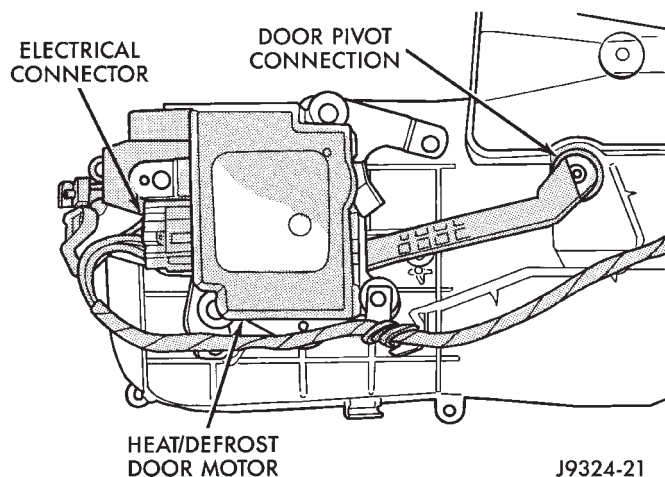

Fig. 23 Heat/Defrost Door Motor
(1) Disconnect and isolate the battery negative cable.
(2) Remove the three screws that secure the upper and lower steering column shrouds to the steering column and remove the shrouds.
(3) Remove the cluster bezel, instrument panel center bezel, instrument panel top cover, steering column opening cover, knee blocker, left instrument panel end cap and left lower instrument panel trim from the instrument panel. Refer to Group 8E - Instrument Panel and Gauges for the procedures.
(4) Remove the two bolts that secure the center instrument panel support bracket to the left side of the floor pan transmission tunnel.
(5) Remove the two bolts that secure the center instrument panel support bracket to the instrument panel.
(6) Remove the center instrument panel support bracket from the vehicle.
(7) Unplug the wire harness connector from the motor (Fig. 23).
(8) Remove the three screws that secure the motor to the bottom of the heater-A/C housing.
(9) Remove the motor from the housing.